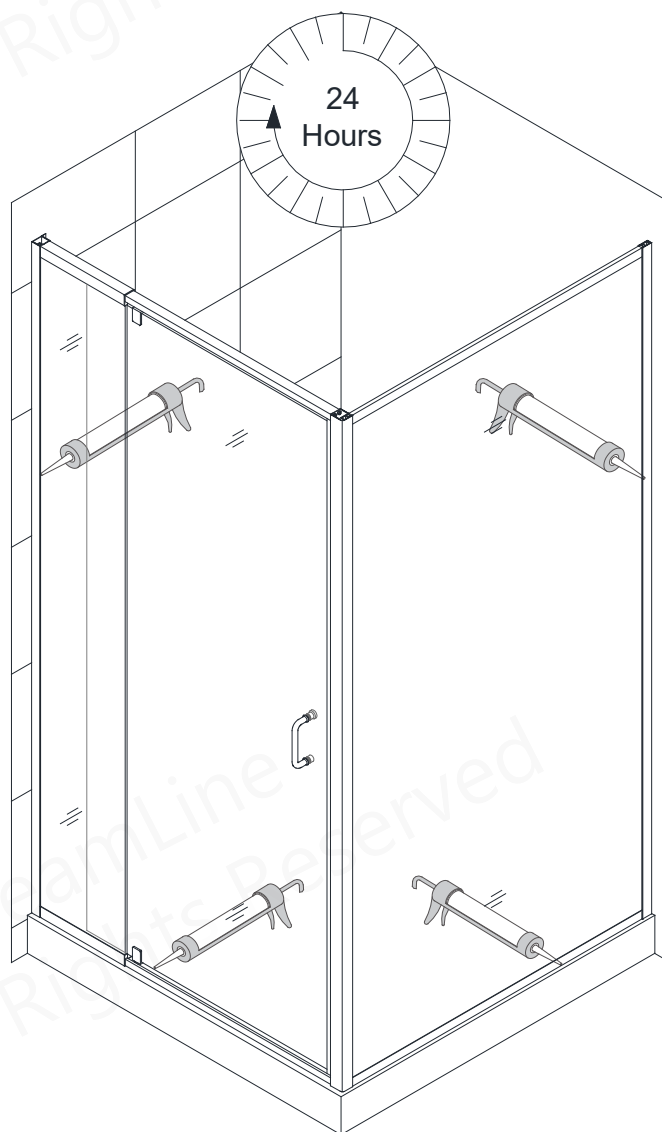

**Fig 13**
**13.** Apply a good quality mildew-resistant silicone along the interior perimeter where the profiles meet the walls and threshold. **(Fig 13)**